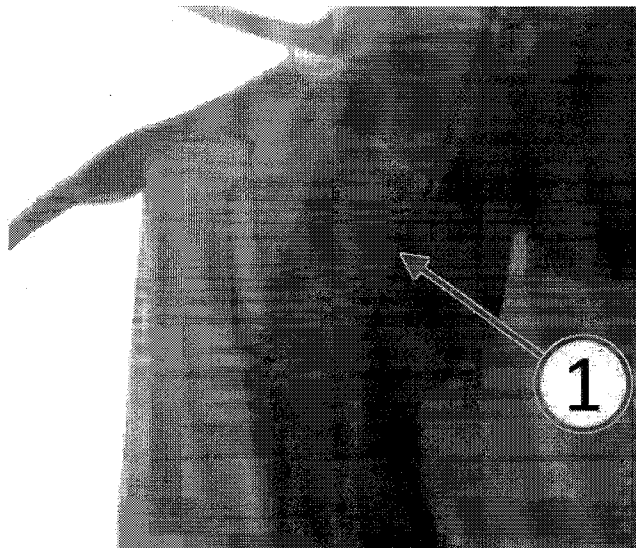

Fig. 3 Window Flag In Proper Position
7. Confirm that the gap has been eliminated between the outer door mounted window seal flag and the door window glass (Fig. 3).